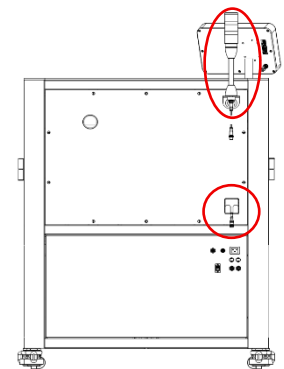

Figure 8 Light Tree and Temp/Humidity Sensor
2. Install the light tree and temperature humidity sensor bracket onto the back of the machine (Figure 8) and plug both connectors in. The ports are labeled and only mate with the correct component.